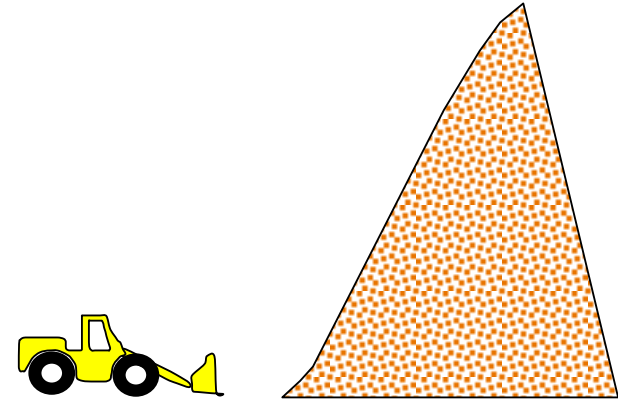

Figure 6
3. Repeat **Step 2** - Remove a second bucket of material from the bottom of the pile, across the entire cross-section. (See Fig. 6)